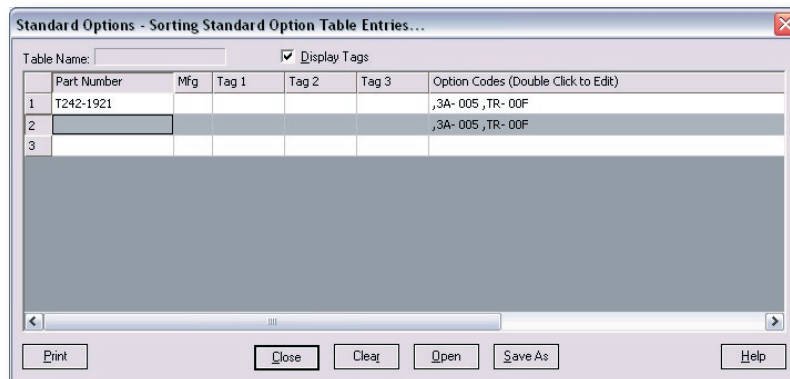

Figure 2
3. The StandardOption table will appear showing that option or options that you selected have been added. (See Figure 2)
Once a StandardOption table is created it can be saved and opened for later use. This can be done from the Options/Edit StandardOptions pull down menu. (See Figure: 2) This dialog box allows you to Save, Load, Remove options, and even change the order of selection by moving options up or down in the list.